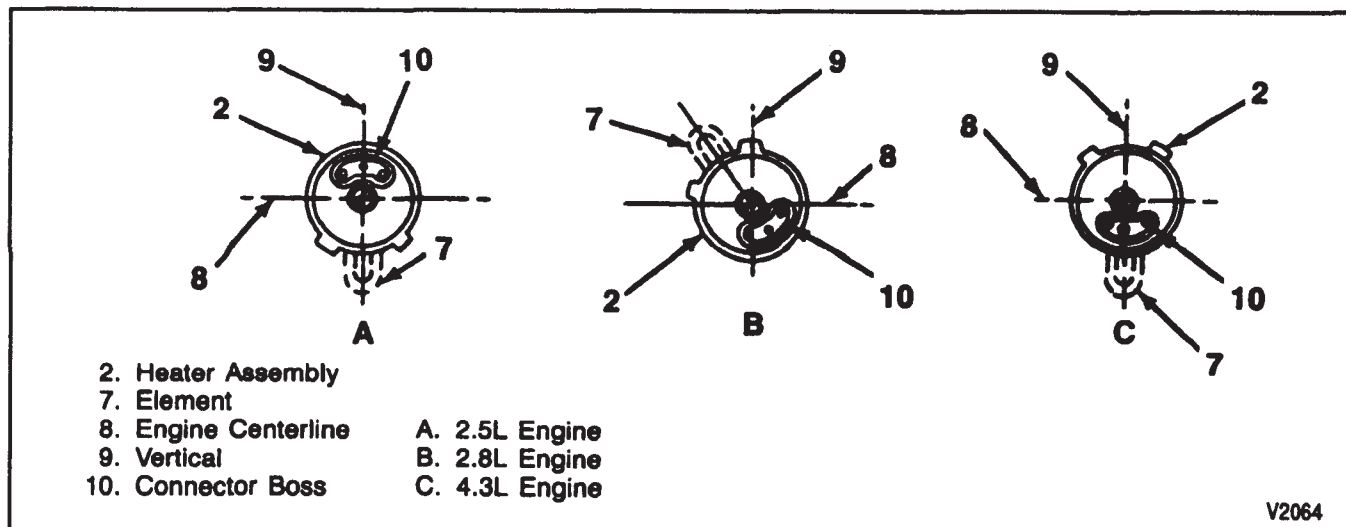

Figure 2—Element Position
- Install the heater element in the correct direction to avoid element contact to the inside walls of the engine block as shown in Figure 2.